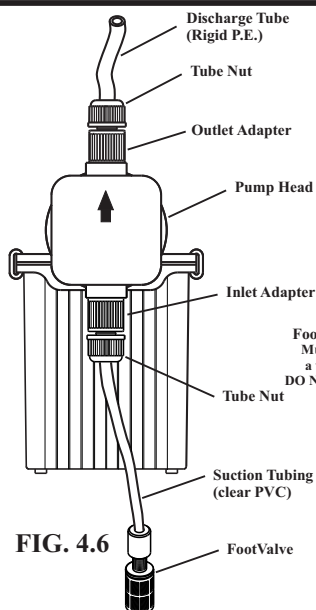

FIG. 4.6
4.3.1 Inlet Tubing - Locate the inlet fitting of the pump head, see fig 4.6. Remove the tube nut. Push the clear PVC suction tubing onto the compression barb of the fitting. Use the tube nut to secure the tube. Hand tighten only.
4.3.3 Outlet Tubing - Locate the outlet fitting of the pump head, see fig 4.6. Remove the tube nut. Push the opaque outlet (discharge) tubing onto the compression barb of the fitting. Use the tube nut to secure the tube. Hand tighten only.